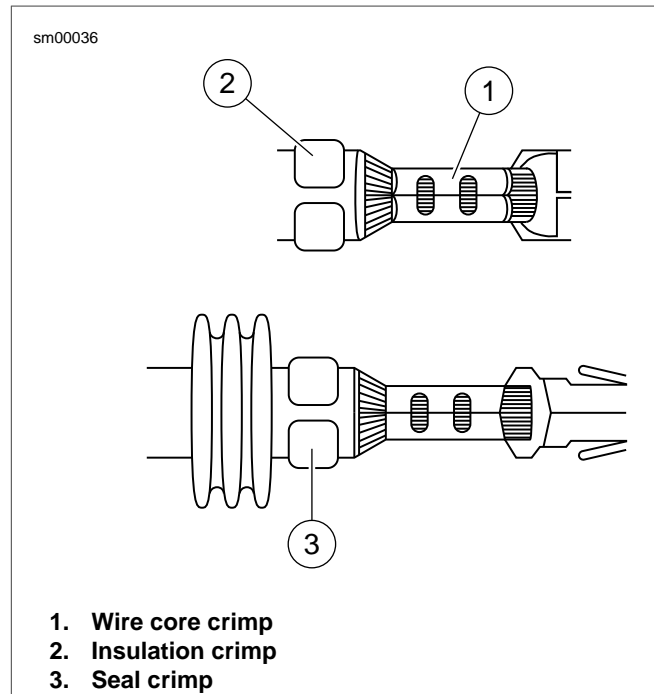

Figure A-17. Metri-Pack Connector: Inspect Core and Insulation/Seal Crimps
1. See Figure A-17. Identify the correct die for the insulation/seal crimp (2).
1. See Figure A-17. Inspect the wire core crimp (1). The tails should be folded in on the wire core without any distortion or excess wire strands.
2. Inspect the insulation (2) or seal (3) crimp. The tails of the terminal should be wrapped around the insulation without distortion.